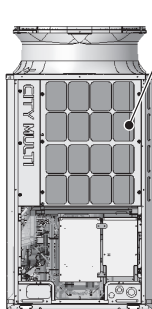

Figure 2
- (1) Remove the front panel from the unit by unscrewing the 8 screws. (See Figure 2.)
- (2) Remove the fin guard by unscrewing the 6 screws. (See Figure 2.)
- (4) Remove the drain pan by unscrewing the 2 screws. (See Figure 2.)